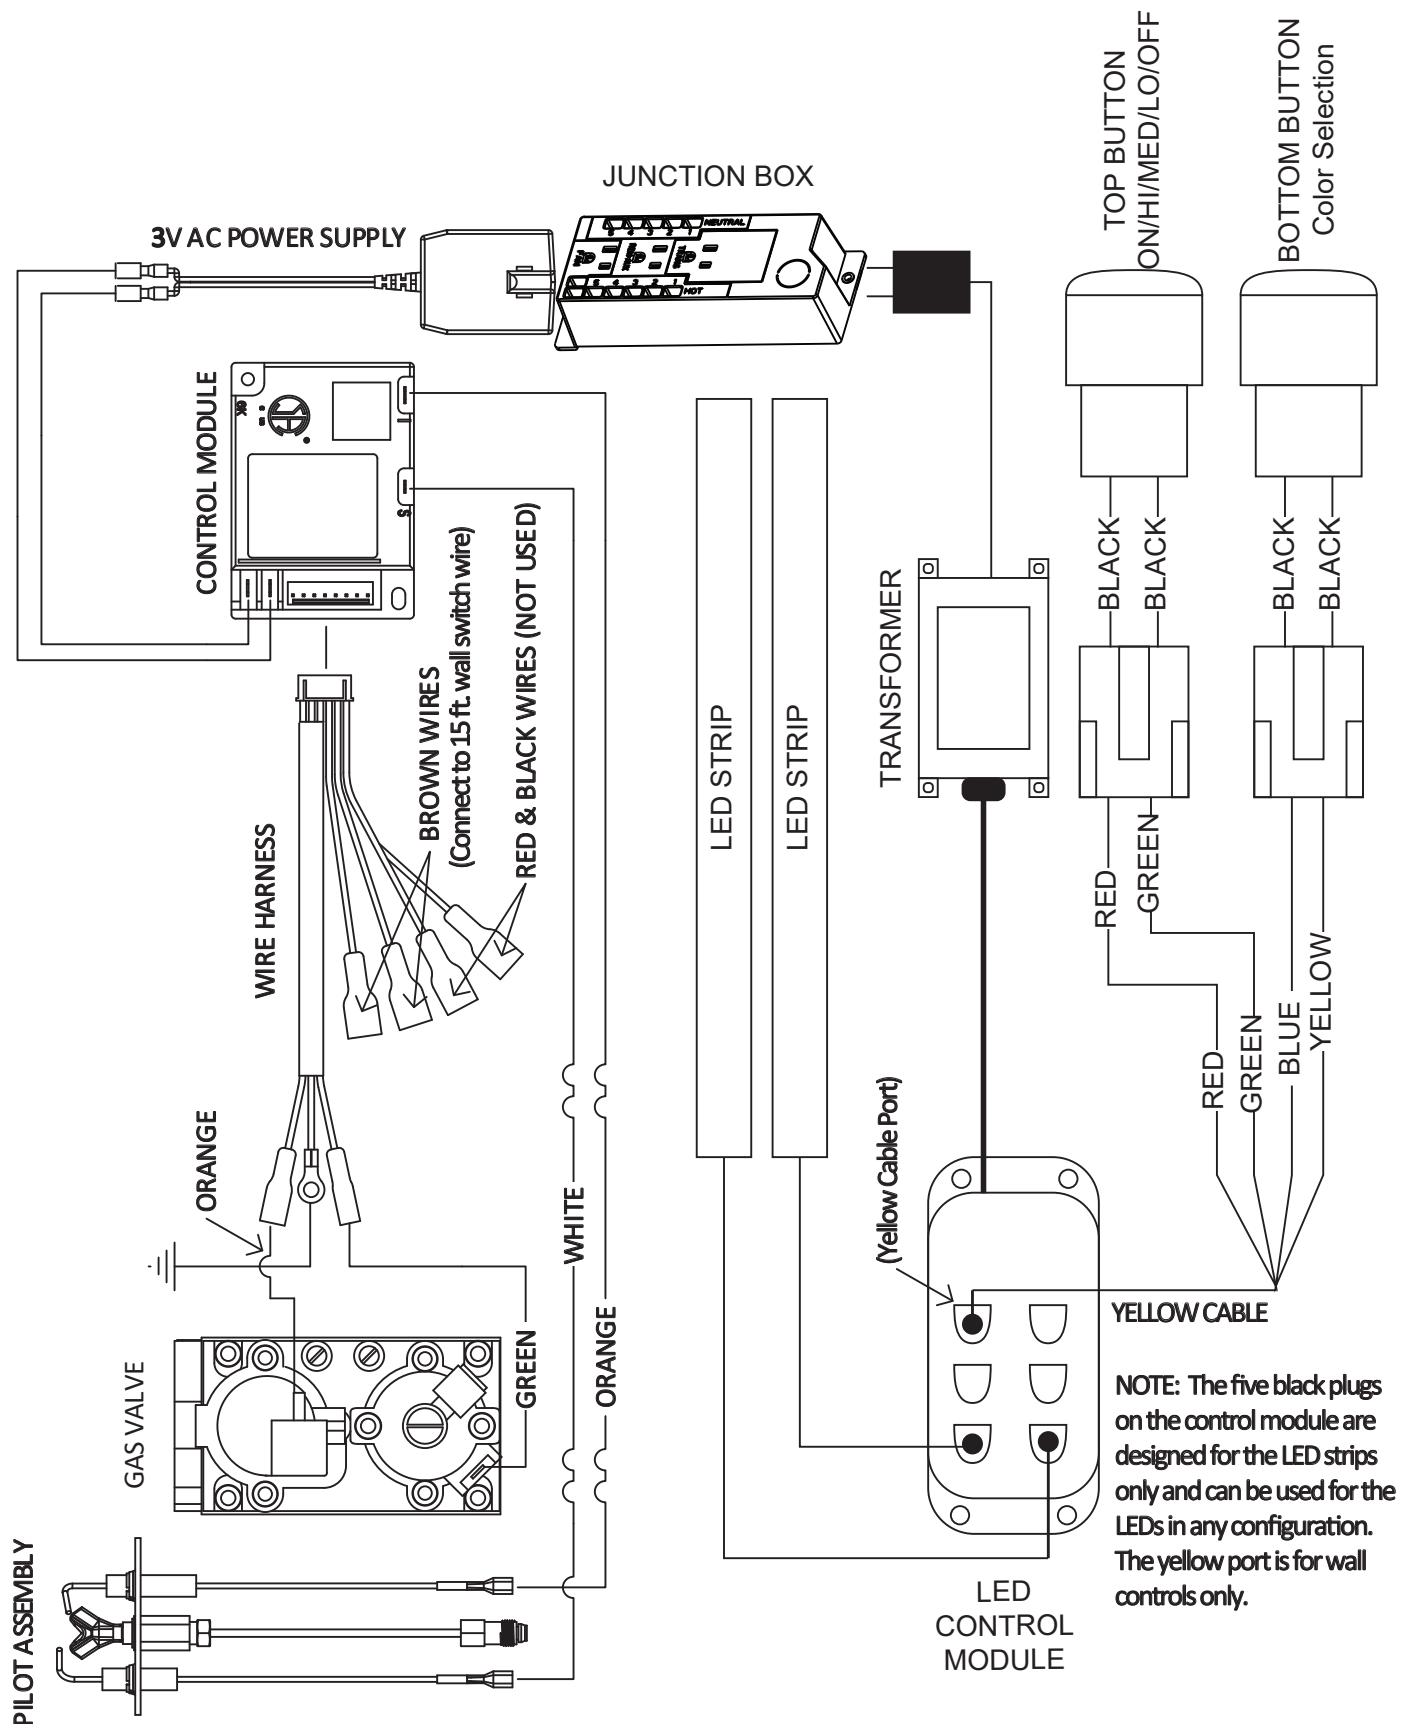

Figure 5.5. Wiring Diagram
- The rocker switch wire (Black/white) must be plugged into the two brown wires on the control wiring harness. There is no incorrect connection for these two wires. Shown in wiring diagram (Figure 5.5.)